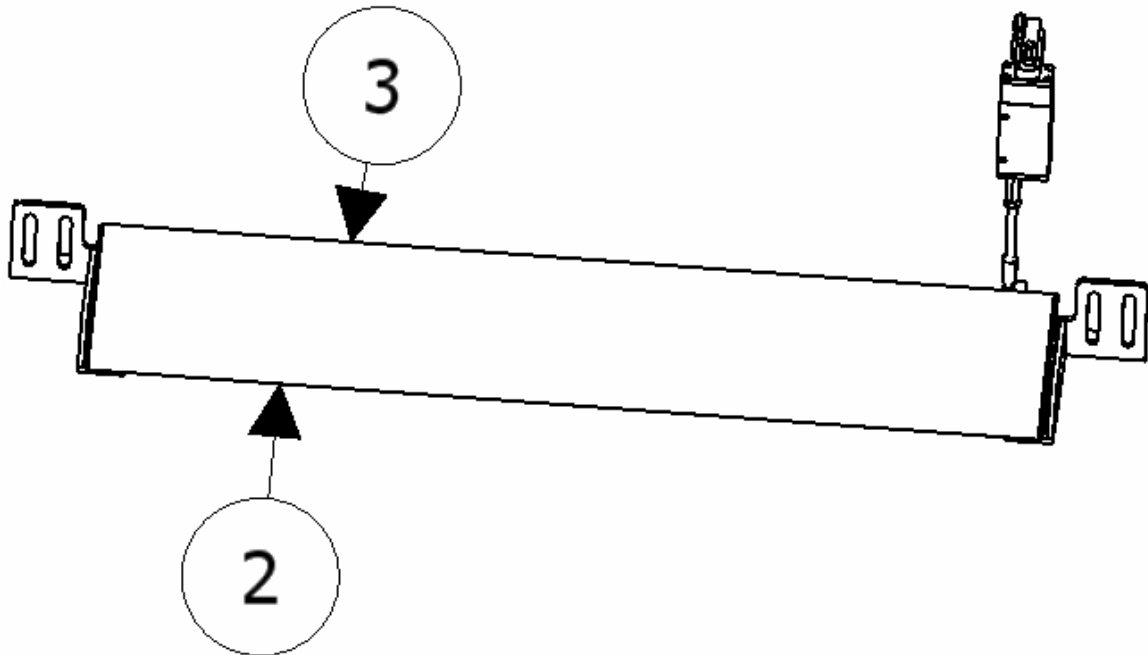

Figure 2a
2. With the table on and blowing press down on the front of the pedal to switch to vacuum. **Figure 2a.**
3. From vacuum press down on the back side of the pedal to switch back to airfloat. **Figure 2a.**